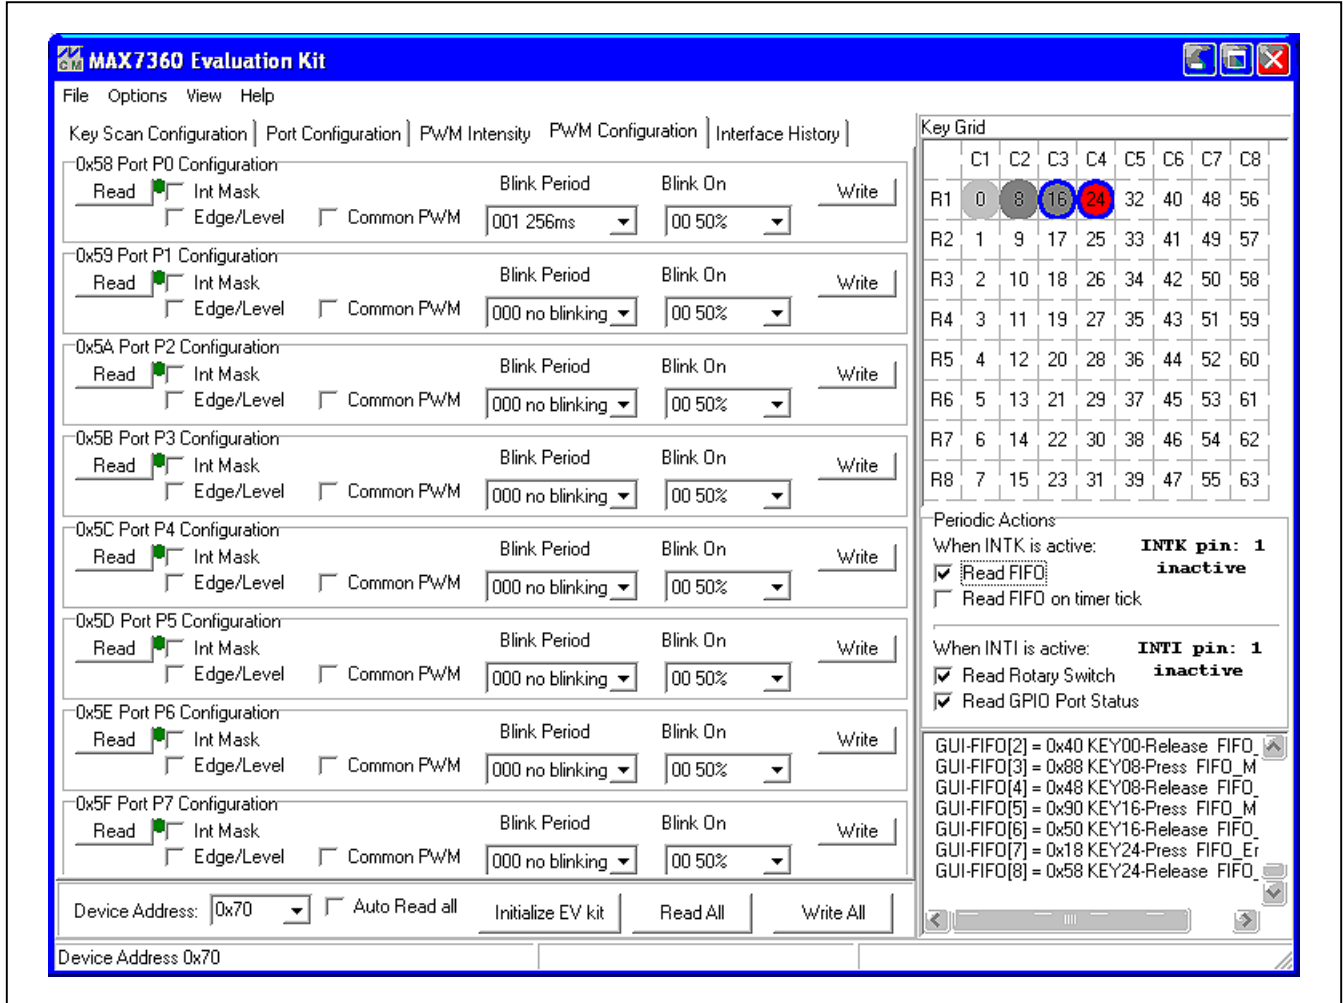

Figure 4. MAX7360 EV Kit Software Main Window (PWM Configuration Tab)
- 16) In the software's **PWM Configuration** tab (Figure 4), set **0x5C Port P4 Configuration** to select **Blink Period** of **010 512ms**, and press the **Write** button. After a moment, LED6 will blink on and off.